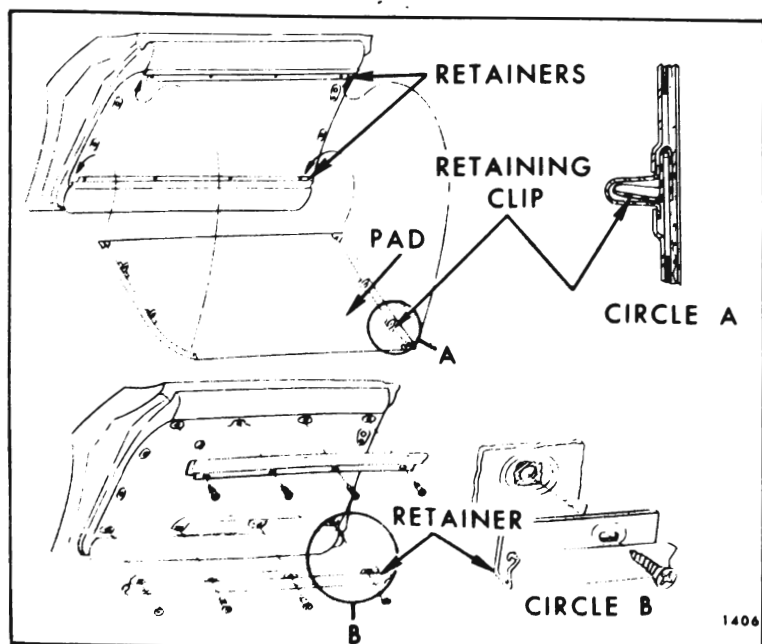

Fig. 7-19—Door Trim Pad Removal
door inner panel at retaining clip locations and disengage clips from retaining plugs. (See Figure 7-19).
5. If plastic retaining plugs are loose and will not remain engaged in door inner panel, install a 1/2, x 3/4" piece of cloth-backed waterproof body tape over retaining plug hole and door inner panel. (See Fig. 7-19). Make two slits in tape to form an "X" pattern. Check retainer for a snug fit and, if still loose, repeat above operation by installing a second piece of tape over the existing repair. This same procedure can be used to repair waterleaks which develop around perimeter of retainer.